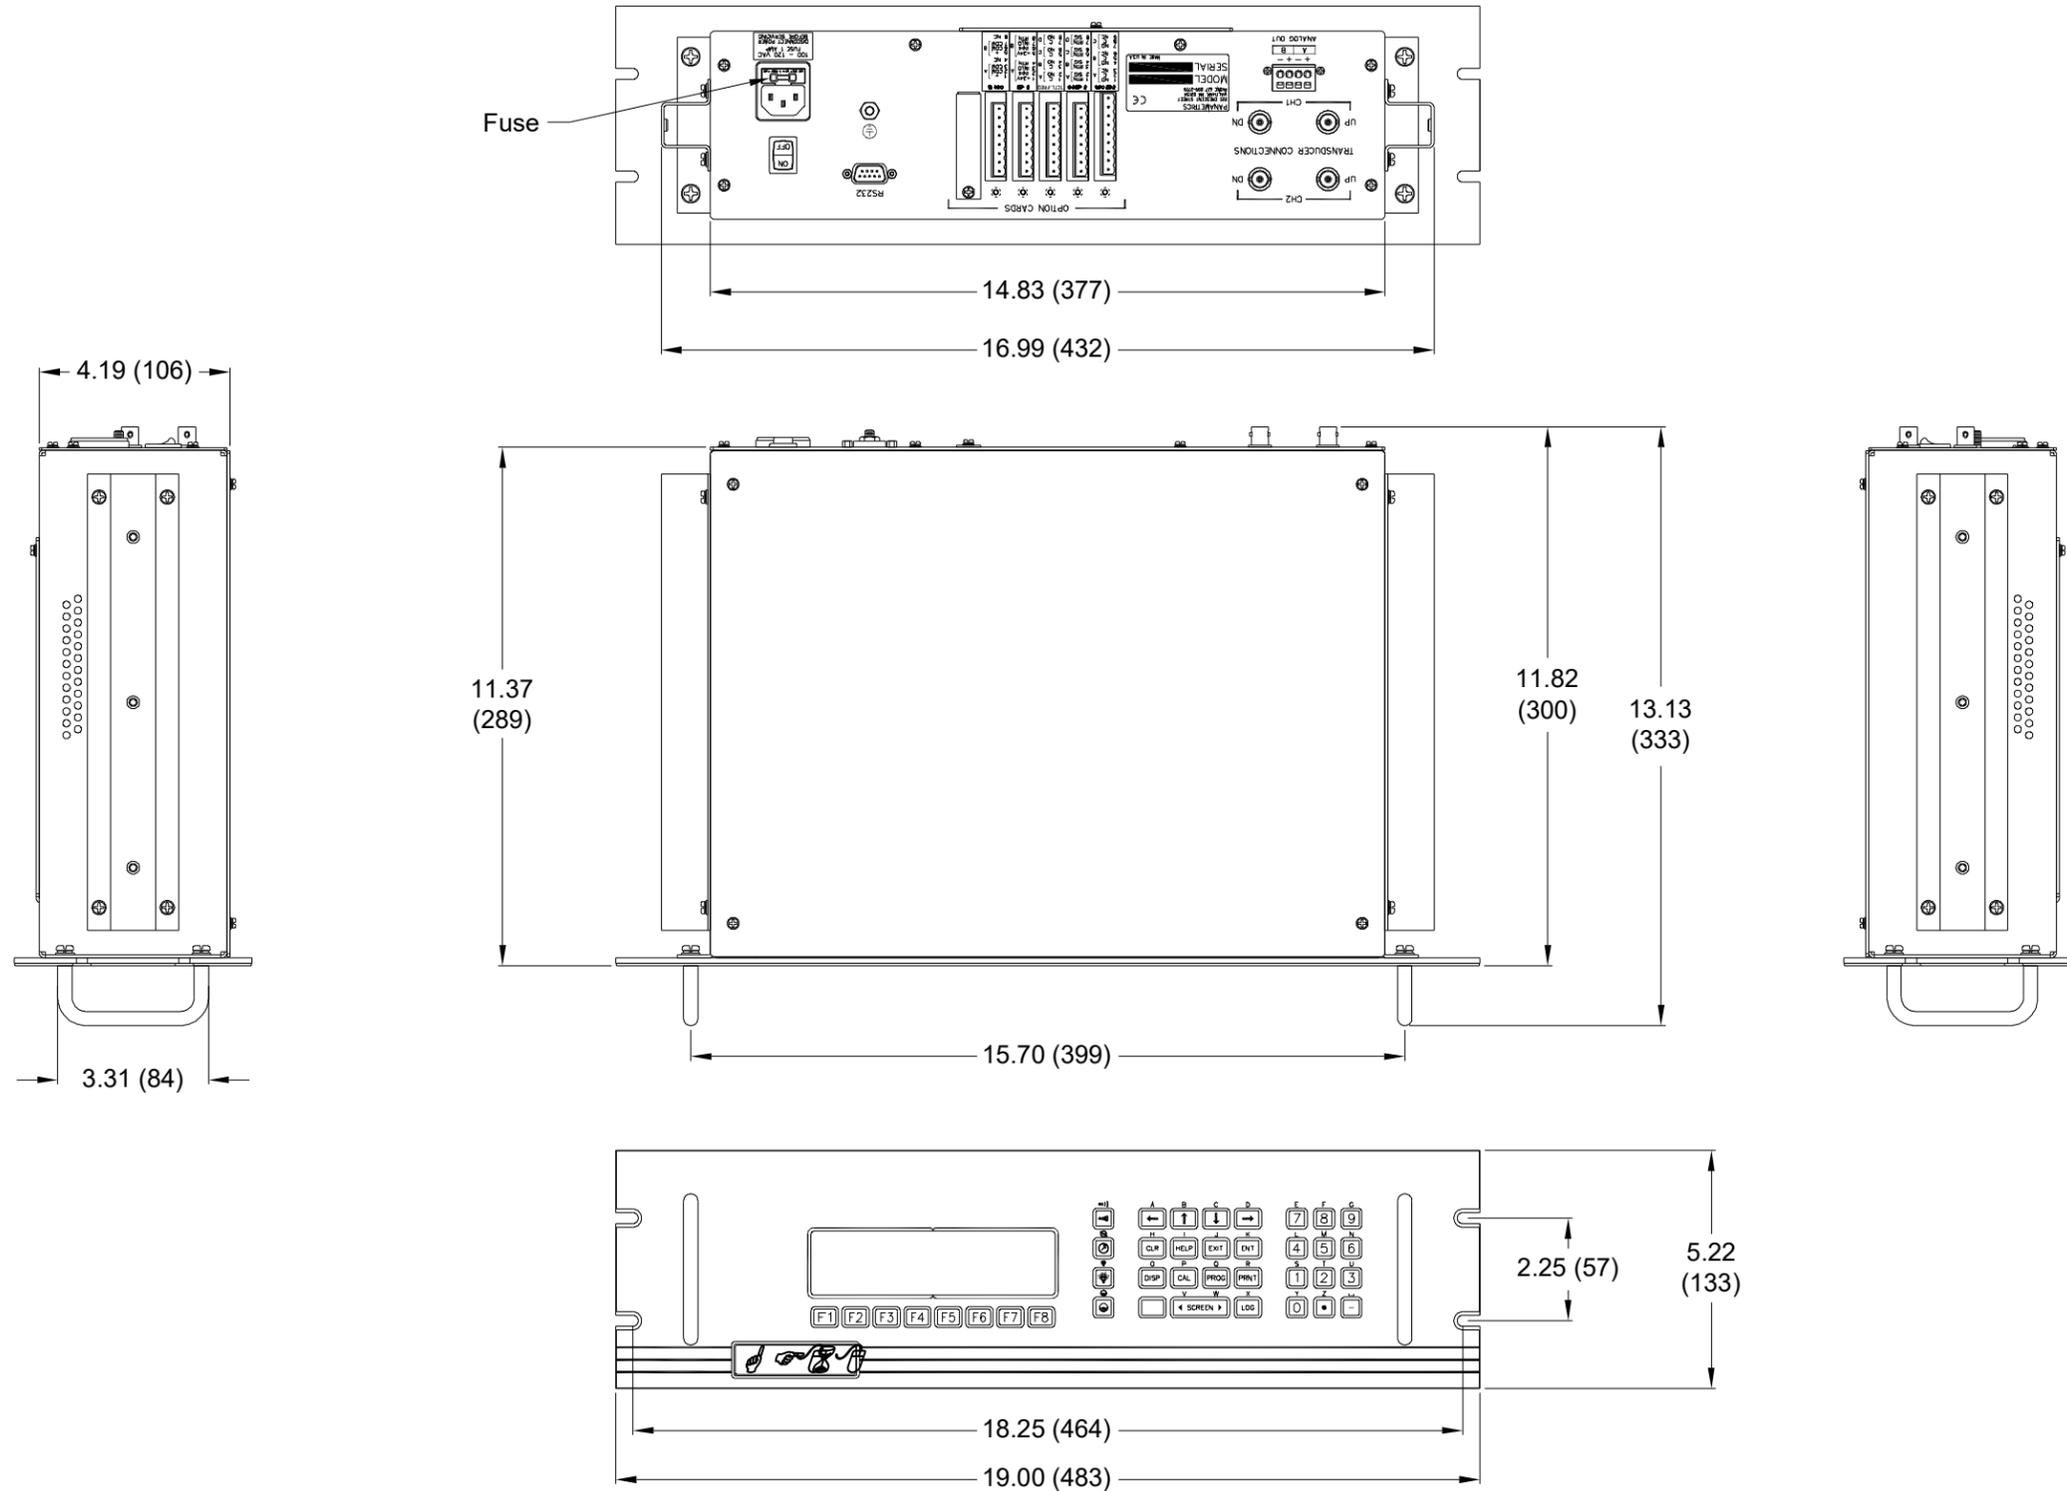
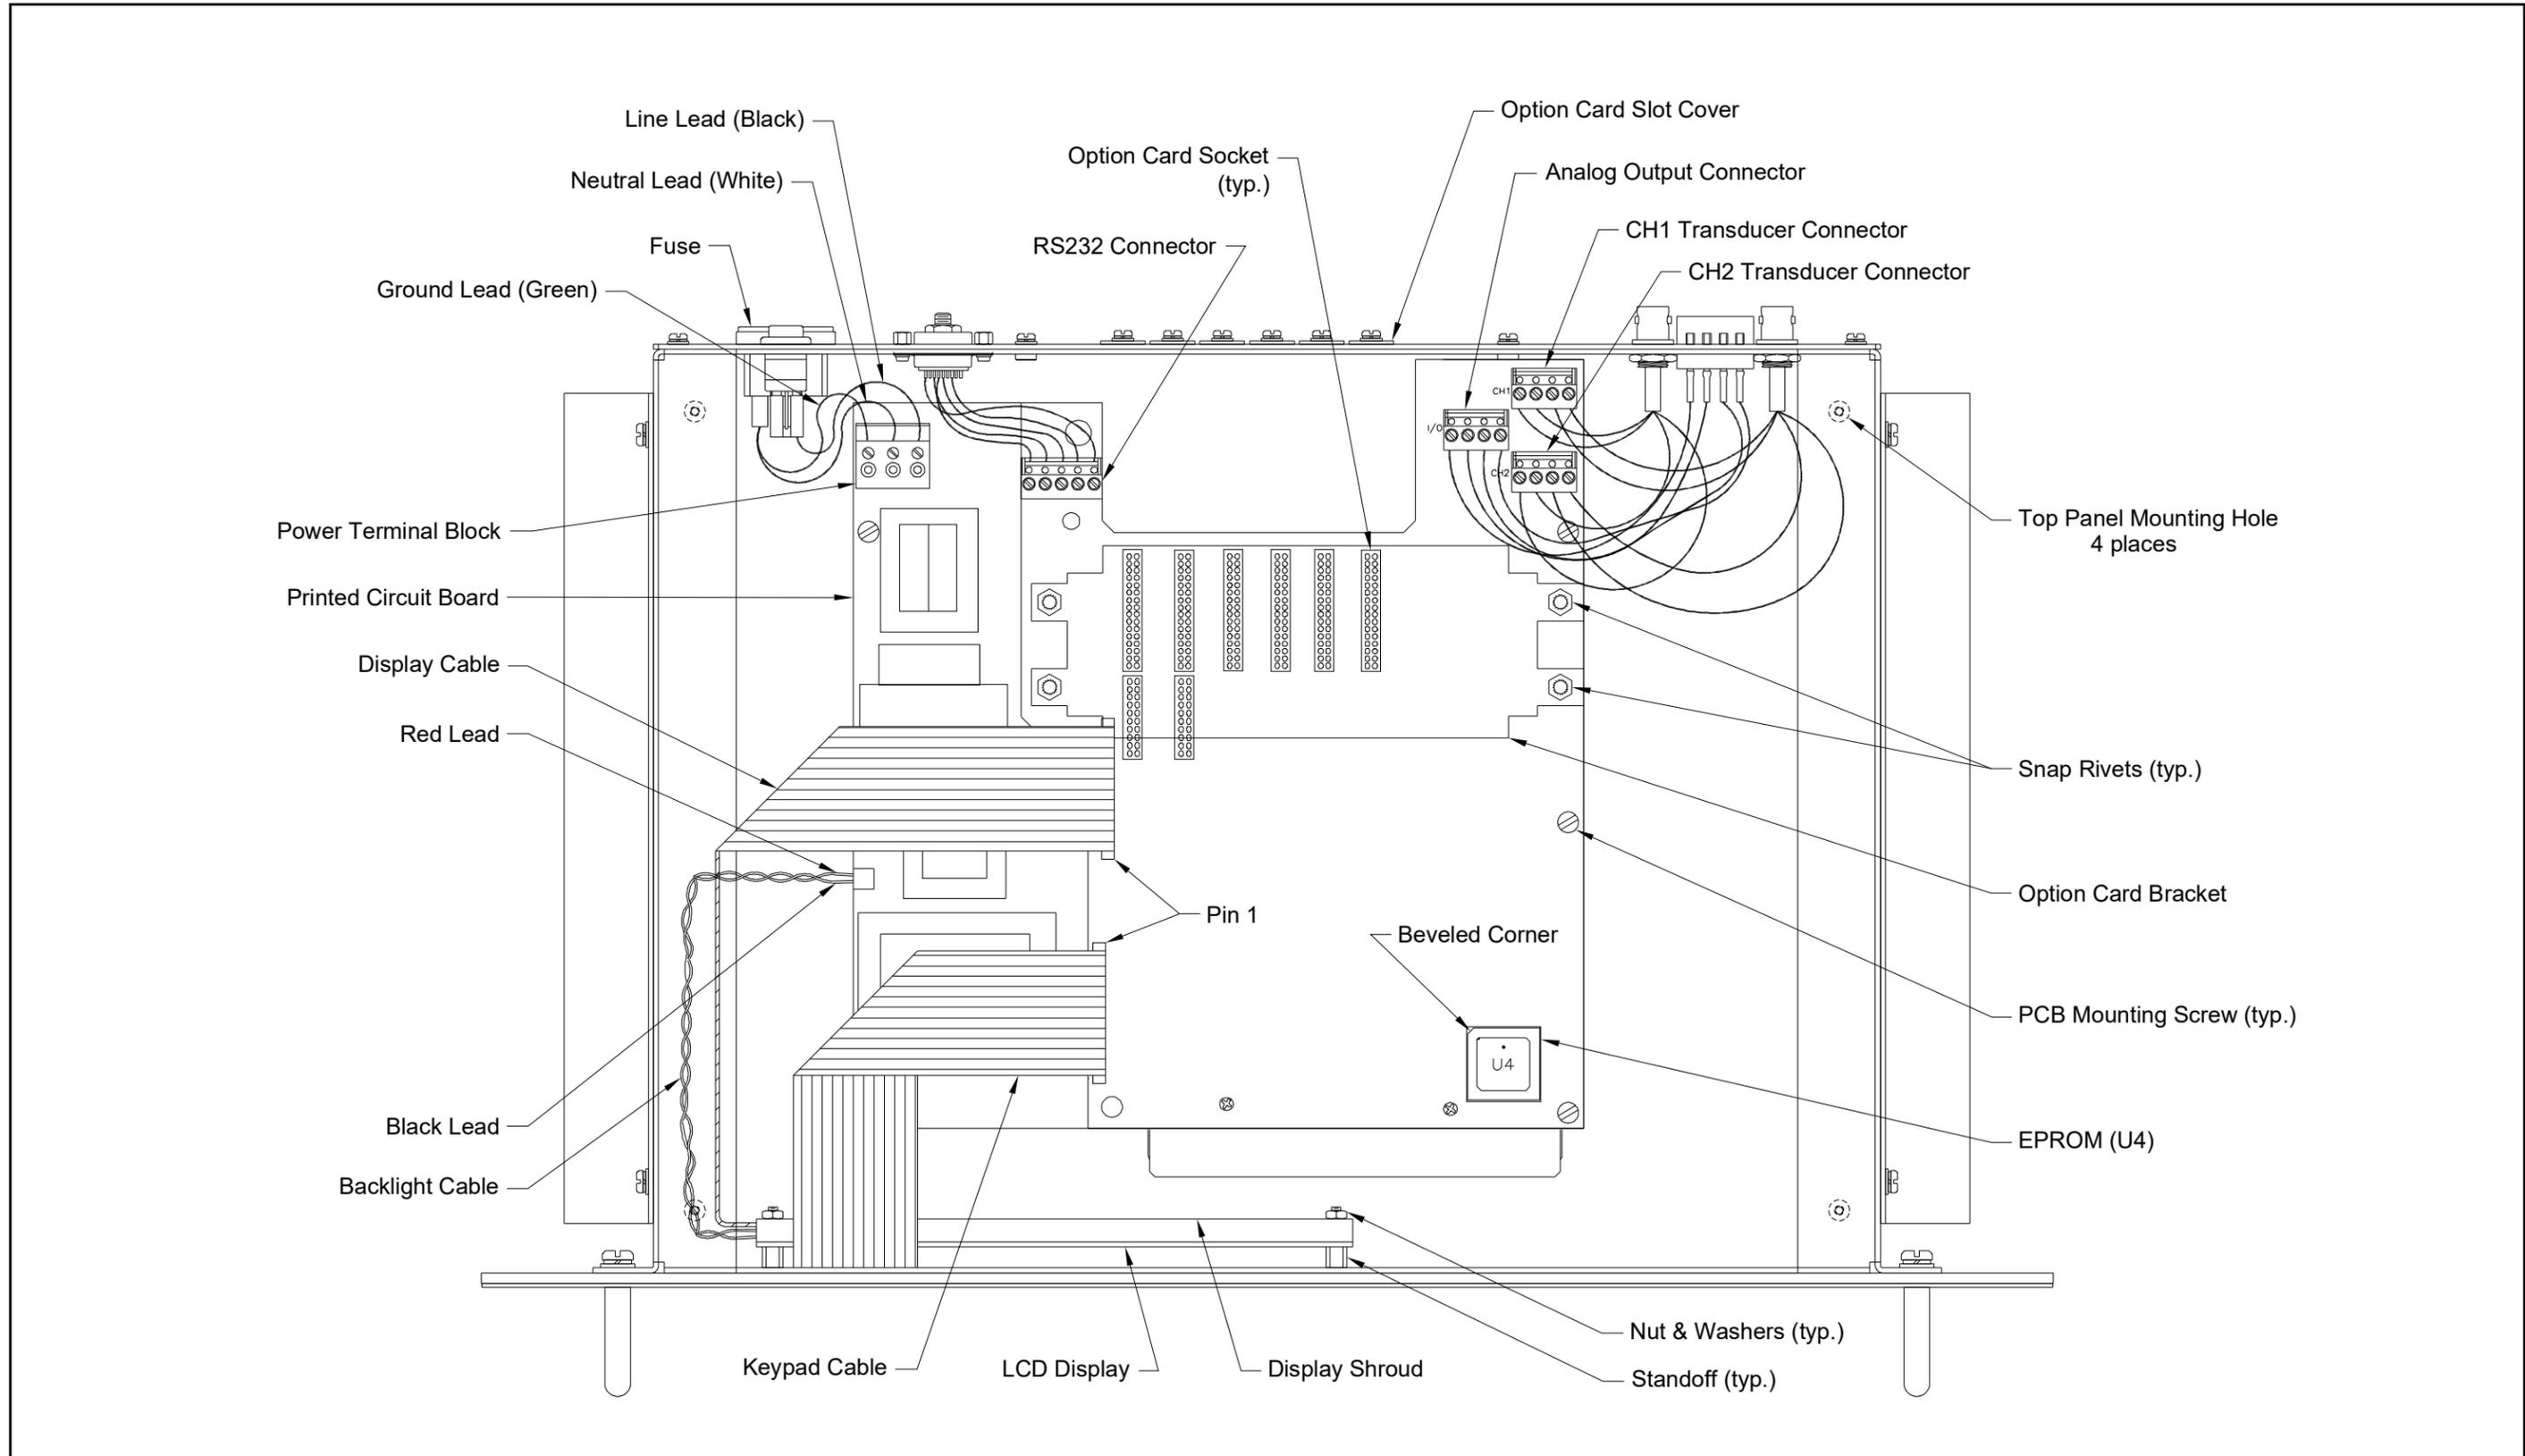

Figure 10: Model GF868 Rack Mount Enclosure Dimensions - (ref. dwg #712-1076)
Figure 11: Model GF868 Rack Mount Console Assembly - (ref. dwg #705-849)
Refer to Figure 10 on page 49 and Figure 11 on page 50 for the location of the relevant components, while completing the following procedures. If the top panel of the meter is accessible, service may be performed without removing the meter from the rack. Otherwise, disconnect all rear panel electrical connections and remove the meter from the rack before proceeding.
If it has been determined that the fuse in the Model GF868 requires replacement, refer to Figure 10 on page 49 and Figure 11 on page 50, and complete the following steps:
Refer to Figure 11 on page 50 and complete the following steps:
EPROM replacement may be required to replace a defective chip or to upgrade to a newer software version. To replace the EPROM, refer to Figure 11 on page 50 and complete the following steps:
To replace the LCD display, refer to Figure 11 on page 50 and complete the following steps:
5. Install the RS232, ANALOG OUT and TRANSDUCER connectors onto the printed circuit board at the locations indicated in Figure 11 on page 50. Make sure the marked pin #1 sides of the connectors face the right side (keypad side) of the enclosure.